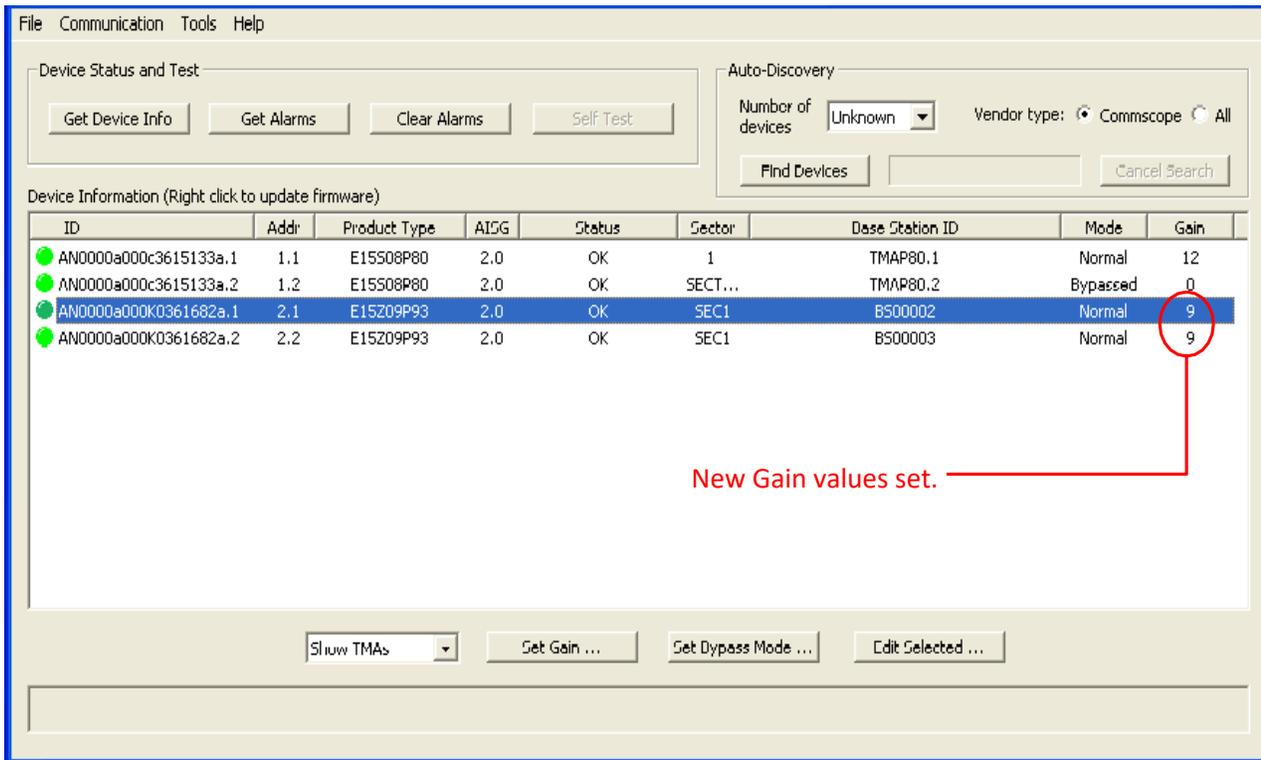

Figure 13-6. new Gain values set on TMA units
11. When the new Gain has been sent to the TMA, the Column Gain will update with the new value(s) (Figure 13-6).